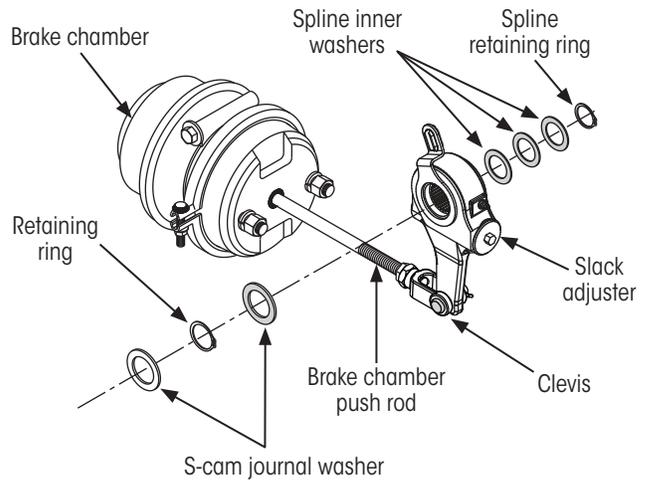

Figure 2: Brake chamber clevis
- A. **Remove** the cotter and clevis pins from the brake chamber clevis at the slack adjusters (Figure 2).
- B. **Remove** slack adjuster and mounting hardware (Figure 2, shaded) from the camshaft using the procedure outlined in Hendrickson literature number L974, heading S-CAM REPLACEMENT PROCEDURES. Discard used brake hardware.